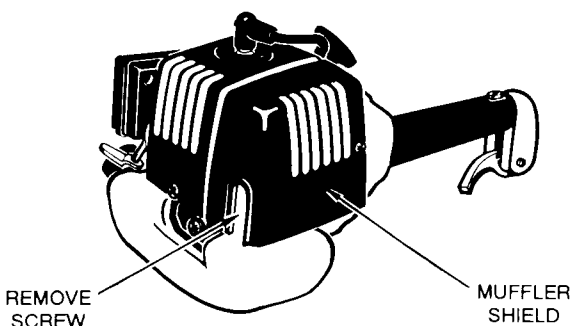

Figure 4-2A
1. Place your unit on a work bench or level surface with the muffler facing you as shown in Figure 4-2A.
3. Using a screwdriver, remove the screen cover retaining screw. (Figure 4-2A)